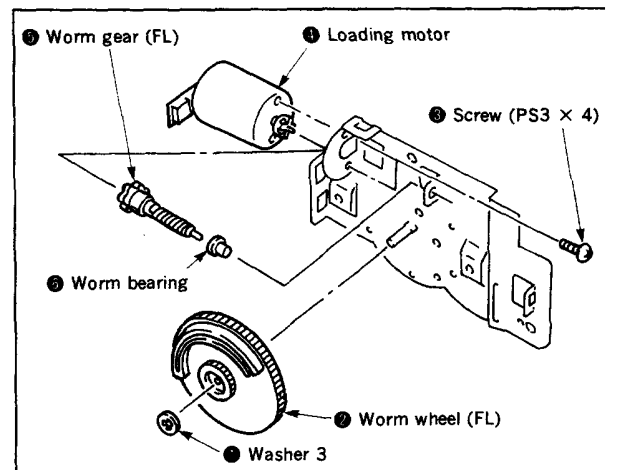

Fig. 3-4.
##### 3-1-4. Loading motor, worm gear (FL), worm wheel (FL), worm bearing (Fig. 3-4)
- 1) Remove washer 3 ①, then pull out the worm wheel (FL) ②.
- 2) Remove the two screws ③, then remove the loading motor ④.
- 3) Remove the worm gear (FL) ⑤ and worm bearing ⑥.